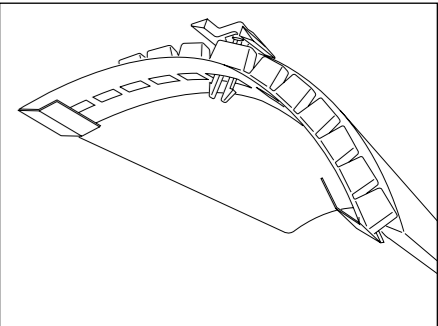

Fig. 11 – Fold in union tabs to suit capping
- 10 Select a hip union, union clamp and 75 x 4.8mm screw. Fit a union clamp into the central slot in the hip union and offer up the assembly into the open end of the hip tile so that it is trapped between the clamp and the union flange. Where the ends on the union overlap the edges of the hip tile, cut off or fold inward the excess length along the crease lines at either end (Fig. 11).